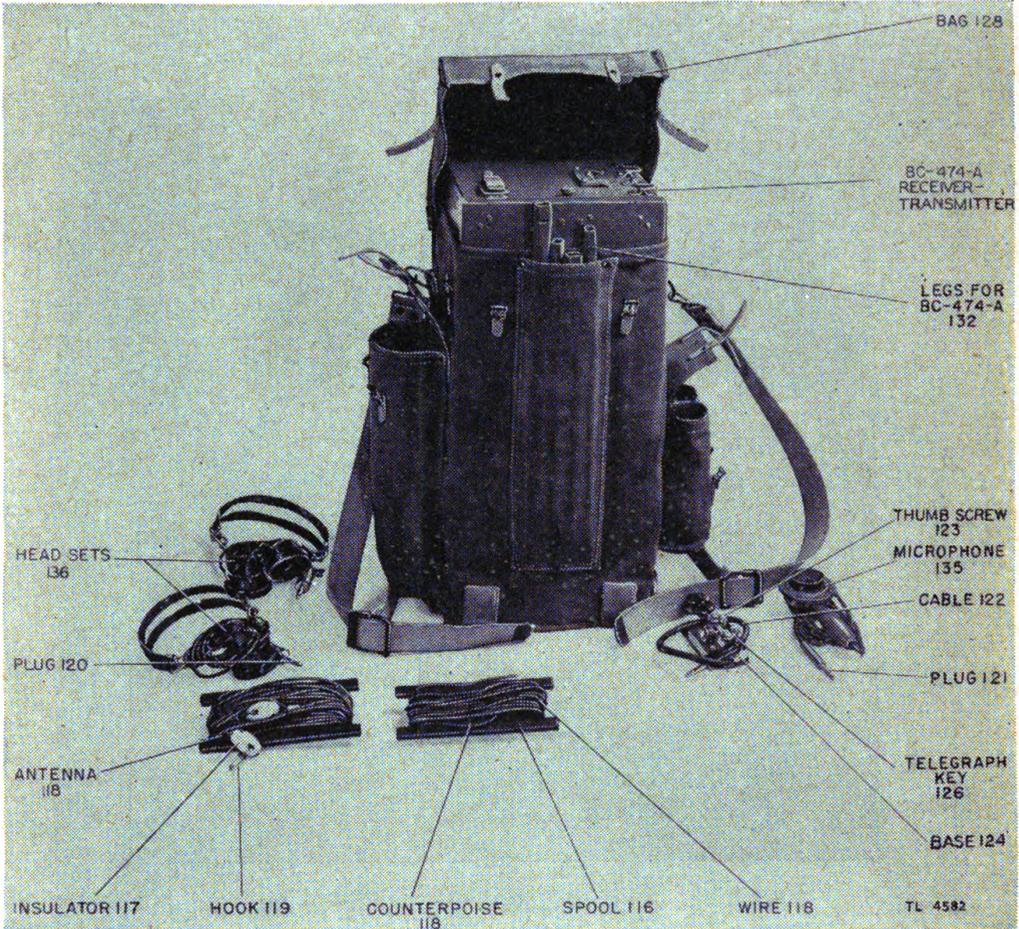

FIGURE 2.—Radio receiver and transmitter BC-474-A and component parts.
ator. The complete equipment weighs approximately 71 pounds. Three waterproof carrying cases are provided into which the equipment may be packed for transportation or storage. (See figs. 2 and 3.)
Radio receiver and transmitter BC-474-A with bag, four legs, two headsets, key, microphone, and one battery pack (fig. 2).....pounds.. 37
7. Initial procedure.—Unstrap covers of carrying cases and remove all parts. (See figs. 2 and 3.) For the method of packing see paragraph 2.